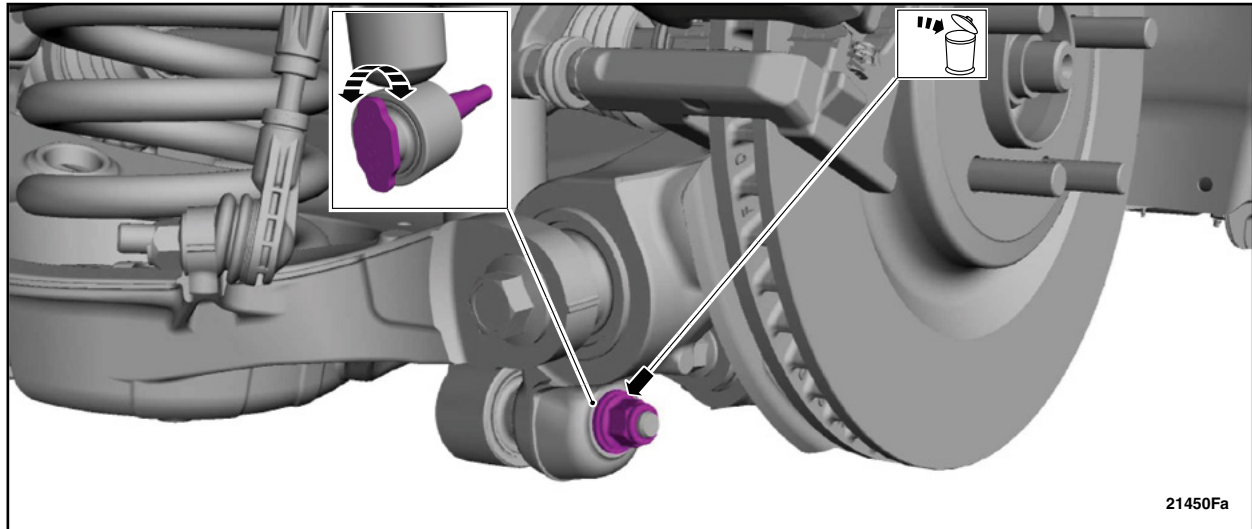

FIGURE 3
7. Remove and discard the rear shock absorber lower nut. See Figure 3.